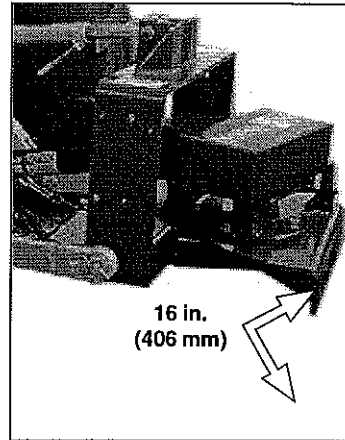

figure 4
- a. Raise hitch arms until the center of the mounting assembly's rear plate is 16 in. (60. mm) above the ground (figure 4).